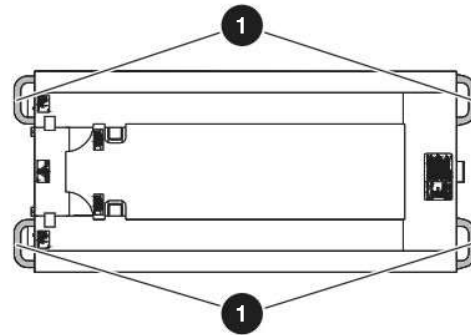
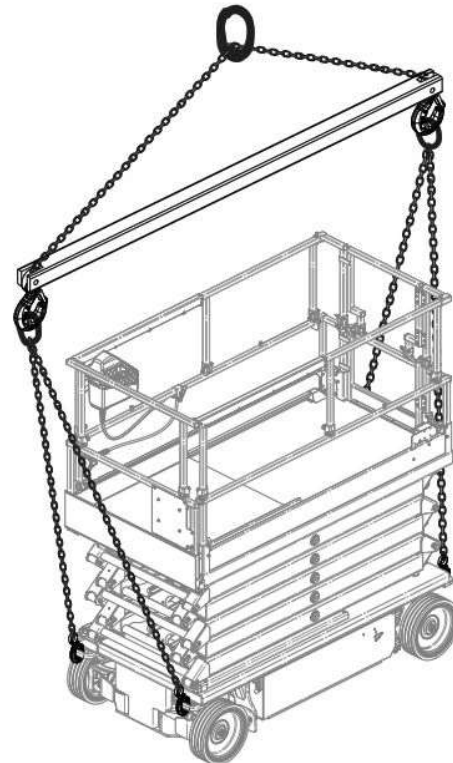
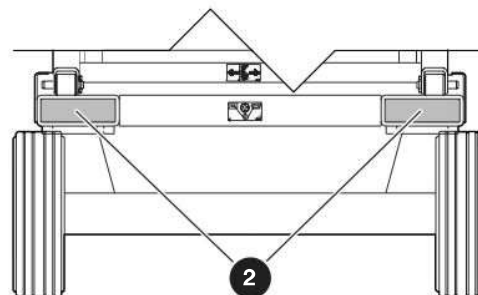

Figure 15 Lift and tie-down points
Figure 16 Appropriate method to hoist
Figure 17 Forklift pockets
- Attach the rigging to all **four lift points ①**, or lift with the forks in the designated **forklift pockets ②**. Refer to *Figure 15*, *Figure 16*, and *Figure 17*.
When you transport the MEWP, it must be attached to a truck or trailer deck. Use the available tie-down points ① to attach the MEWP. Refer to Figure 15. If you do not obey, there is a risk of death or serious injury.
- Tie-down the MEWP to the transport vehicle using the four tie-down points ①. Refer to Figure 15.